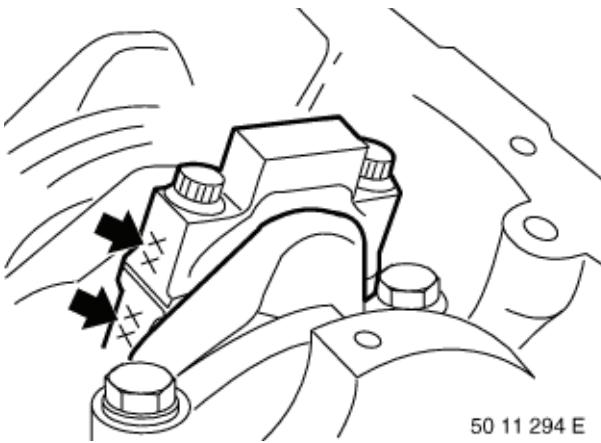

Figure 5-61
12. Install the connecting rod cap. Ensure the connecting rod and cap have the same marking number and that the marks are on the same side (**Figure 5-61**).